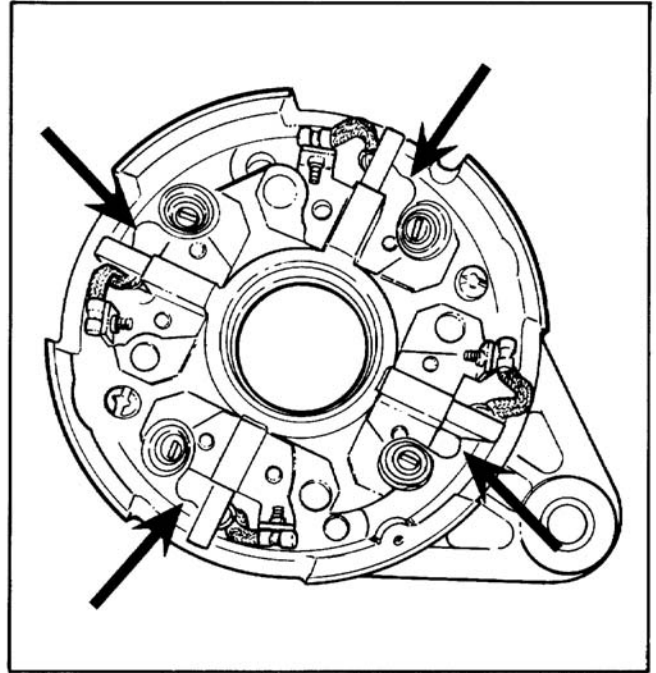

Figure 6 - Holding Brushes Off Commutator
**Note:** If it is not necessary to remove brushes, they can be held off of commutator with brush springs. See Figure 6.